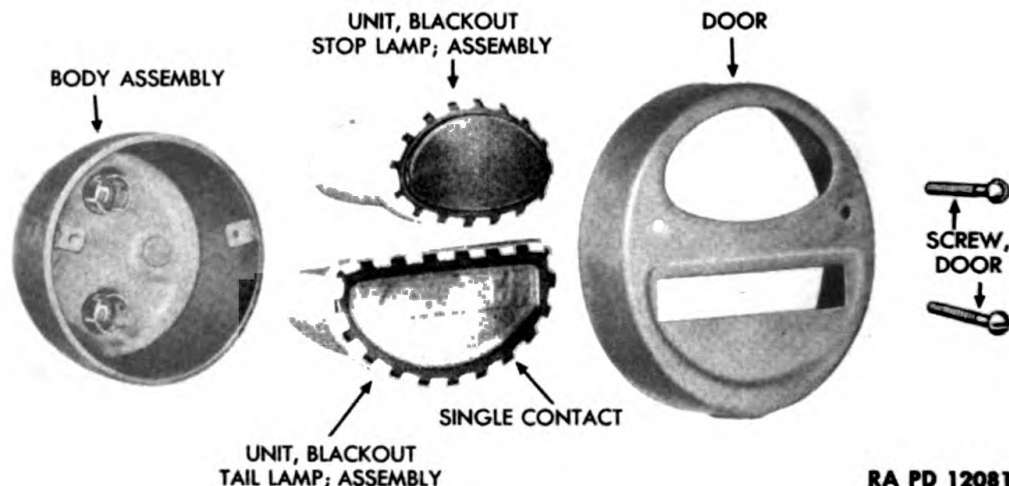

Figure 220—Blackout Tail and Service Stop Lamp Assembly
(1) Remove the 2 screws which secure door to body assembly and lift door from body assembly (fig. 220).
(2) Pull blackout tail lamp unit assembly and service stop lamp unit assembly out of body assembly (fig. 220).
- (1) Push blackout tail lamp unit assembly and service stop lamp unit assembly into place in body (fig. 220).
- (2) Place door in position on body and secure in place with the 2 door screws (fig. 220).